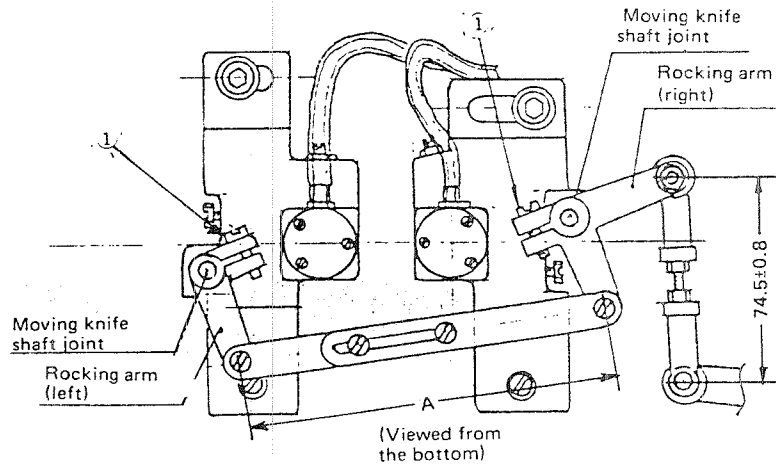

Fig. 29
<ol style="list-style-type: none"> 1. Loosen screws to release rocking arm (Fig. 29). 2. Adjust the position of the moving knife to the moving knife rest. 3. After the adjustment, push the pushing plate in the direction of the arrow in Fig. 30 and turn the handwheel toward you to check that the requirements have been met. (Report this procedure several time to make sure). <p>(CAUTION) When tightening screw ① to fix the rocking arm, make sure that there is no clearance at the surface of the hook driving shaft saddle.</p> <div data-bbox="248 1493 711 1770" data-label="Diagram"> </div> <p>Fig. 30</p>	<p>If the moving knife juts out too much from the fixed knife ;</p> <ul style="list-style-type: none"> ○ Thread trimming failure may occur. ○ The thread trimmer may fail to catch the thread. <p>If the moving knife juts out too little from the fixed knife ;</p> <ul style="list-style-type: none"> ○ The thread trimmer may fail to catch the thread. ○ The machine may fail in making some starting stitches as illustrated below; <div data-bbox="1015 1371 1312 1472" data-label="Diagram"> <p>(Failure in starting stitches)</p> </div> <p>* Initial position of the moving knife by thread size</p> <div data-bbox="946 1566 1373 1696" data-label="Diagram"> </div>